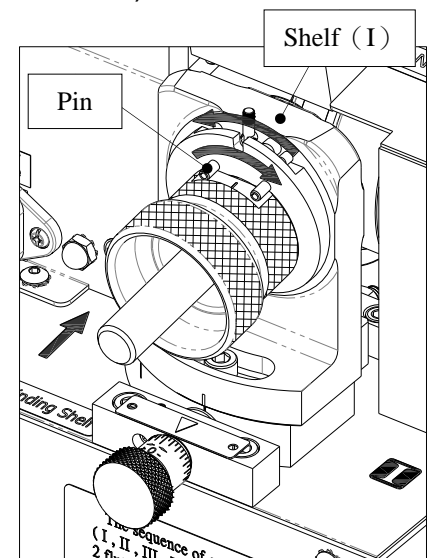

Fig. 15-1
1. 2 Flute Secondary Relief Grinding (I) (Fig. 15-1)
- ① Insert the Chuck set into Shelf (I), align Slot No.1 of the Chuck set with the two pins on the shelf, gently push the Chuck set into the shelf until the grinding noise stops, turn the Chuck set clockwise to the end and turn it back by counter clockwise.
- ② Take out the Chuck set; turn it by 180° to Slot No.2, align Slot No.2 of the Chuck set with the two pins on the shelf, gently push the Chuck set into the shelf until the grinding noise stops, turn the Chuck set clockwise to the end and turn it back by counter clockwise, then take out the Chuck set.